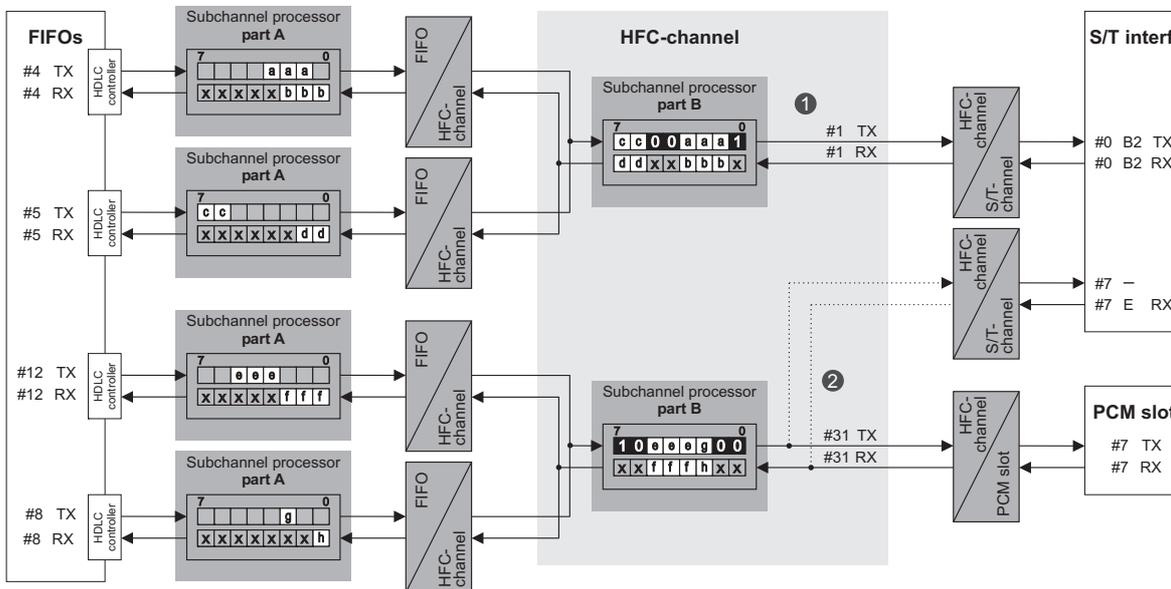

Figure 3.18: CSM example with subchannel processor
In *Channel Select Mode* up to 8 FIFOs can be assigned to one HFC-channel if only 1 bit is processed by every FIFO. The example in Figure 3.18 shows two bidirectional configurations (❶ FIFO-to-S/T and ❷ FIFO-to-PCM) with two FIFOs per direction each.
Table 3.10: Subchannel processing according to Figure 3.18 (CSM 1 TX, transparent mode)
Table 3.11: Subchannel processing according to Figure 3.18 (CSM ① RX, transparent mode)